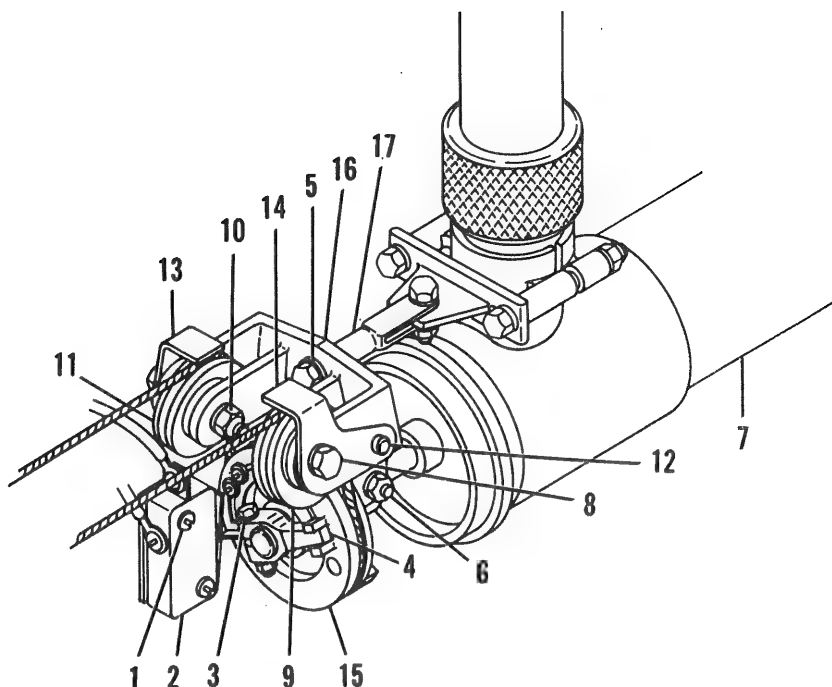

Figure 3-62. Throttle Control Pulley Bracket
3-262. REMOVAL. (See figure 3-62.)
a. Remove bolt, washer, and nut (8, figure 3-62) and remove pulley (9).
b. Remove bolt, washer, and nut (10) and remove pulley (11).
c. Remove pin (12) and clips (13 and 14).
d. Slide pulley assembly (15) from hub of bracket (16).
a. Examine pulleys (9 and 11, figure 3-62) and pulley assembly (15), for broken grooves, binding or worn bearings, and distortion.
a. Position pulley assembly (15, figure 3-62) on hub of bracket (16).
b. Position pulley (11) between arms of bracket (16), position clip (13) outside of arms, and install bolt, washer, and nut (10). Tighten nut fingertight.
c. Position pulley (9) between arms of bracket (16), and position clip (14) outside of arms and install bolt, washer, and nut (8). Tighten nut fingertight.
d. Install pin (12) through four arms of bracket (16).
a. Position unit so that hole in pulley assembly (15, figure 3-62) is aligned with shaft in end of torque tube (7).
b. Install bolt and washer (5) through bracket (16) and into end of link (17).
c. Slide lever (4) on shaft in end of torque tube (7) and install bolt, washer, and nut (3).
d. Install bolt, washer, and nut (6).